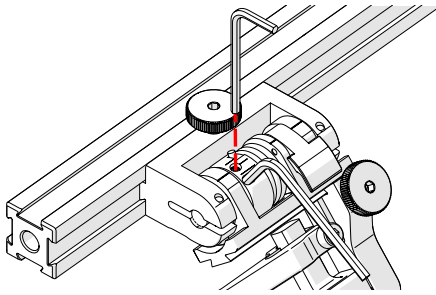

Fig. 160 - Insert hex tools
4. Place the 2 mm hex wrench into the force adjustment screw (Fig. 160).